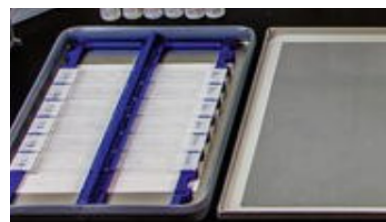

Figure 24: Hybridization Tray
- Place the slide horizontally into the hybridization tray (Figure 24).